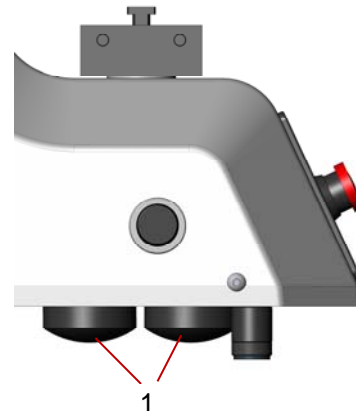

Fig. 12.01
- Turn the battery compartments 1 (Fig 12.01/12.02) under the electric Crimping Machine CS 300 (Order No. 63816-1500) to open them.
- Close battery compartments 1 (Fig 12.01/12.02) by turning them.